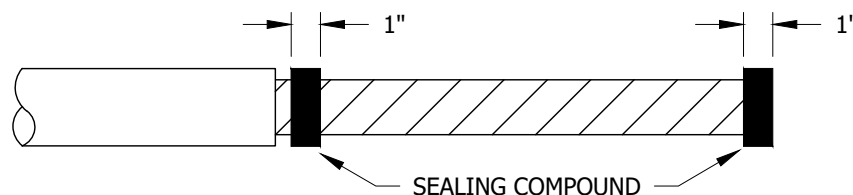

FIGURE 3 Ⓓ
- C. WHEN USING END CAPS OVER CONCENTRIC NEUTRALS, IT IS NECESSARY TO APPLY A PAD OF SEALING COMPOUND OVER THE END OF THE CABLE AND AT THE JACKET CUTBACK TO ENSURE AN ADEQUATE WATER SEAL (SEE FIGURES 3 AND 4).